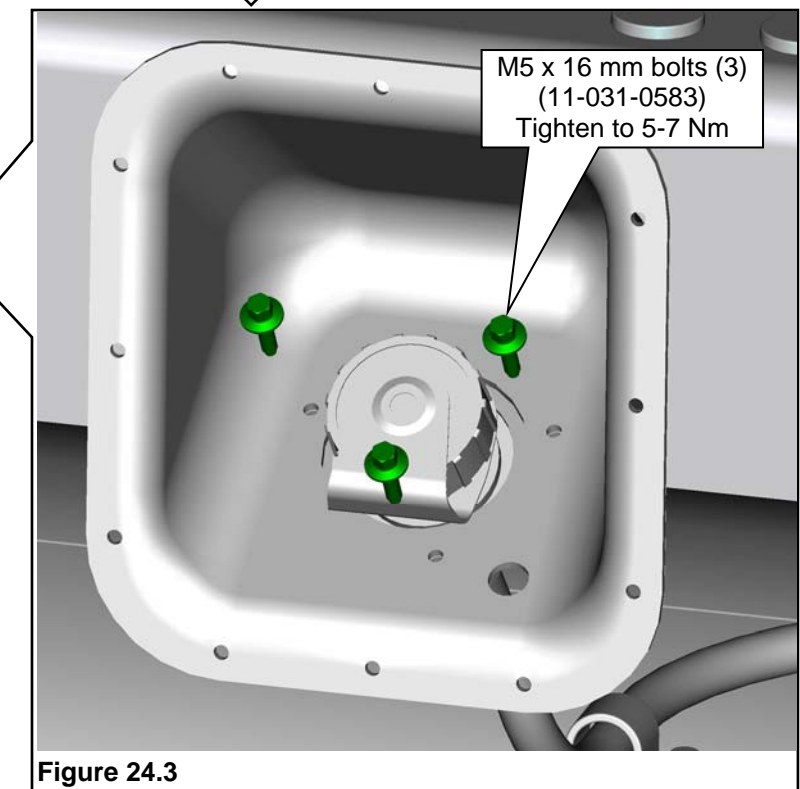

Figure 24.3
11. Install fuel fill valve assembly to the body mounting bracket using three M5 x 16 mm bolts and washers. Tighten the bolts to 5-7 Nm. **Figure 24.3.**